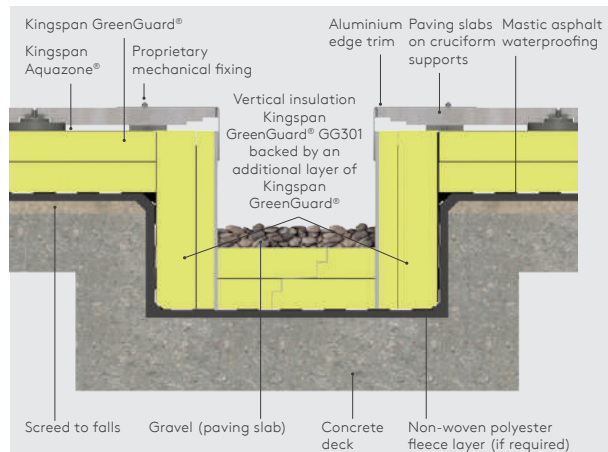
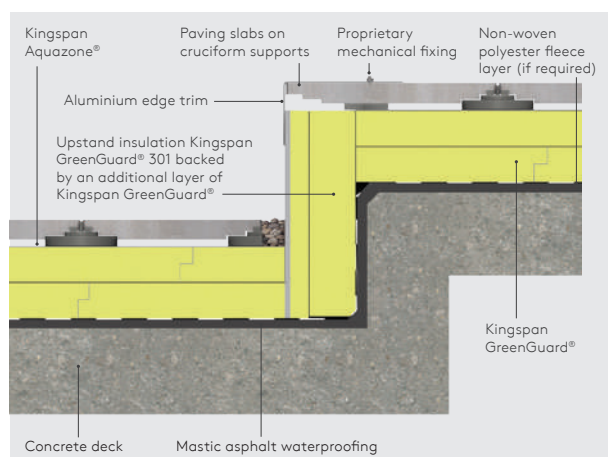

Figure 9 - Internal gutter
Figure 11 - Change in level
- Where an Internal gutter is formed, vertical insulation should be used to reduce thermal bridging, using Kingspan GreenGuard® GG301 with a separate backing layer of Kingspan GreenGuard® (see Figure 9). A similar approach can also reduce losses where a change in levels is required (see Figure 11).